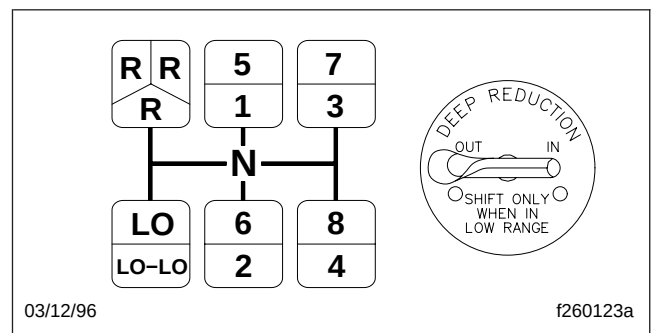

Fig. 8.8, Shift Pattern, Deep Reduction
Eaton Fuller deep-reduction models are not synchronized. They have a five-speed front section and a two-speed auxiliary section which has an extra deep reduction gear. The LO gear in the front section is used only as a starting gear. The other four ratios are used once in LOW RANGE and once in HIGH RANGE giving eight highway ratios. LO-LO is selected by the DEEP REDUCTION lever on the dash-board. See Fig. 8.8 for the shift pattern.
1. Position the gear shift lever in neutral. See Fig. 8.8 for the shift pattern. Start the engine, and bring the air system pressure up to 95 to 125 psi (655 to 862 kPa).